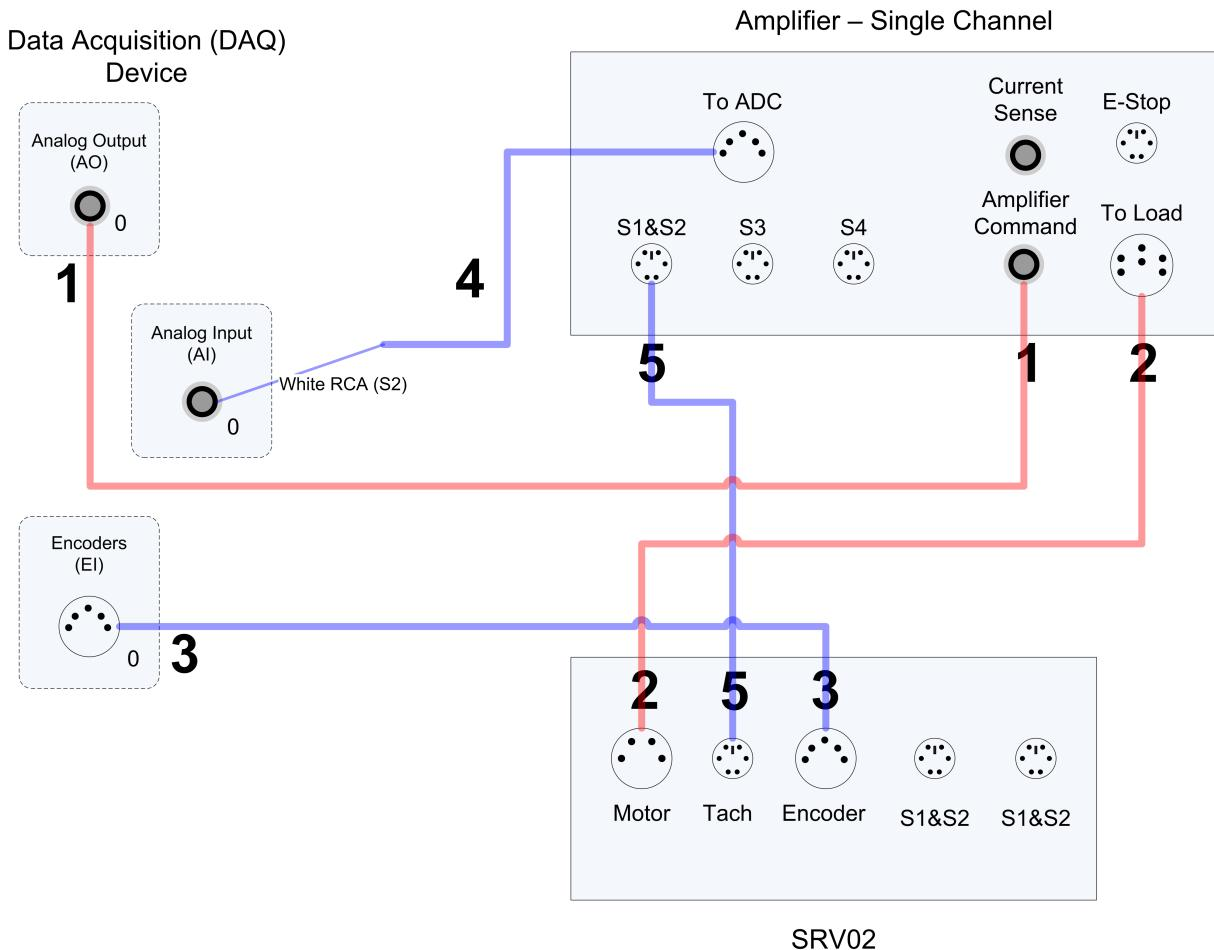

Figure 5.1: Connecting the SRV02 to a Single-Channel DAQ and Amplifier
This section describes the typical connections used to connect the SRV02 plant to a data acquisition device and a power amplifier. **Only the encoder and tachometer sensors are connected (i.e., potentiometer is NOT used).** The connections are summarized in Table 5.2, and pictured in Figure 5.1. Connection details are given below.
Note: The wiring diagram shown in Figure 5.1 is using a generic data acquisition device. The same connections can be applied for any data acquisition system that has 1x analog input, 1x analog output, and 1x encoder input (e.g., single Q1-cRIO module).
3. Connect one end of the 2xRCA to 2xRCA cable from the Analog Output Channel #0 on the terminal board to the *Amplifier Command* connector on the amplifier, i.e., use both white or both red RCA connectors. See cable #1 shown in Figure 5.1.
4. Connect the 4-pin-stereo-DIN to 6-pin-stereo-DIN that is labeled from *To Load* on the amplifier to the *Motor* connector on the SRV02. See connection #2 shown in Figure 5.1.
5. Connect the 5-pin-stereo-DIN to 5-pin-stereo-DIN cable from the *Encoder* connector on the SRV02 panel to Encoder Input # 0 on the terminal board, as depicted by connection #3 in Figure 5.1.
6. Connect the *To ADC* socket on the amplifier to Analog Inputs #0-1 on the terminal board using the 5-pin-DIN to 4xRCA cable, as illustrated in Figure 5.1. The RCA side of the cable is labeled with the channels: yellow is S1, white is S2, red is S3, and black is S4. The yellow S1 connector goes to Analog Input Channel #0 and the white S2 connector goes to Analog Input Channel #1.
7. Connect the *TACH* connector on the SRV02 to the *S1 & S2* socket on the SRV02 using the 6-pin-mini-DIN to 6-pin-mini-DIN cable. This connection is labeled #5 in Figure 5.1. It combines the potentiometer (S1) measurement with the tachometer (S2) measurement.
8. Connect the *S1 & S2* connector on the SRV02 to the *S1 & S2* socket on the amplifier using the 6-pin-mini-DIN to 6-pin-mini-DIN cable. See connection #6 in Figure 5.1. This carries the potentiometer (S1) and tachometer (S2) signals.
7. Connect the *TACH* connector on the SRV02 to the *S1 & S2* socket on the SRV02 using the 6-pin-mini-DIN to 6-pin-mini-DIN cable. This connection is labeled #5 in Figure 5.1. It combines the potentiometer (*S1*) measurement with the tachometer (*S2*) measurement.
8. Connect the *S1 & S2* connector on the SRV02 to the *S1 & S2* socket on the amplifier using the 6-pin-mini-DIN to 6-pin-mini-DIN cable. See connection #6 in Figure 5.1. This carries the potentiometer (*S1*) and tachometer (*S2*) signals.
Note: The wiring diagram shown in Figure 5.1 is using a generic data acquisition device. The same connections can be applied for any data acquisition system that has least 2x analog inputs, 1x analog output, and 1x encoder input.